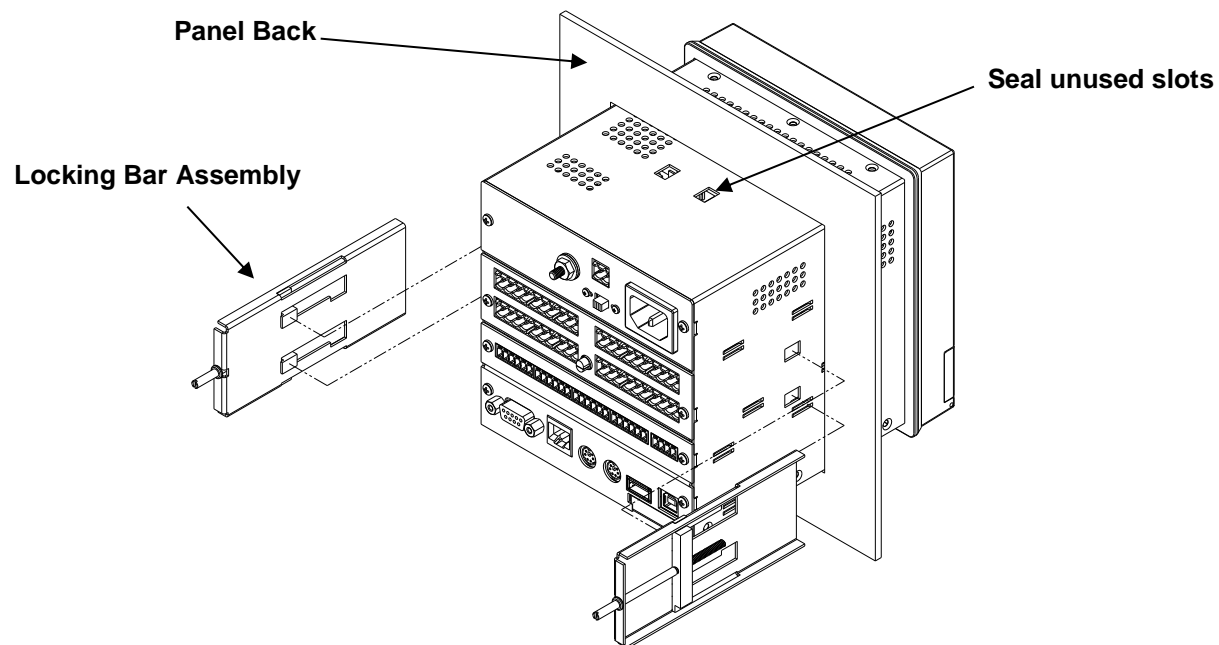

Figure 3-4 Rear View Panel Insertion
- 3.3.1.5** With the recorder held firmly in place against the panel, install one of the locking bar assemblies by sliding the locking bar notch into the slot on the side (or top) of the recorder enclosure as shown in Figure 3-4.